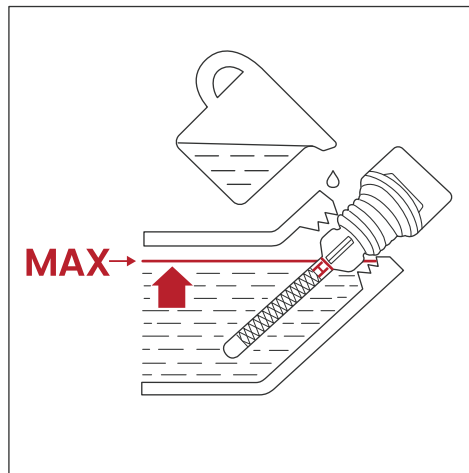

Fig.7
- 4 Check engine oil level before each use and add as needed (see Fig.7).